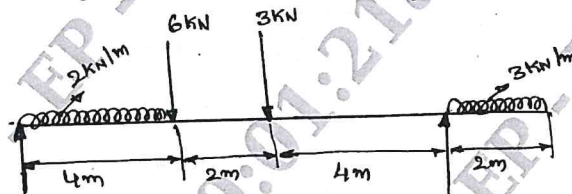

Fig.Q5(b)
- b. For the beam shown in Fig.Q5(b). Draw shear force diagram (SFD) and bending moment diagram (BMD). Locate the point of contraflexure if any.